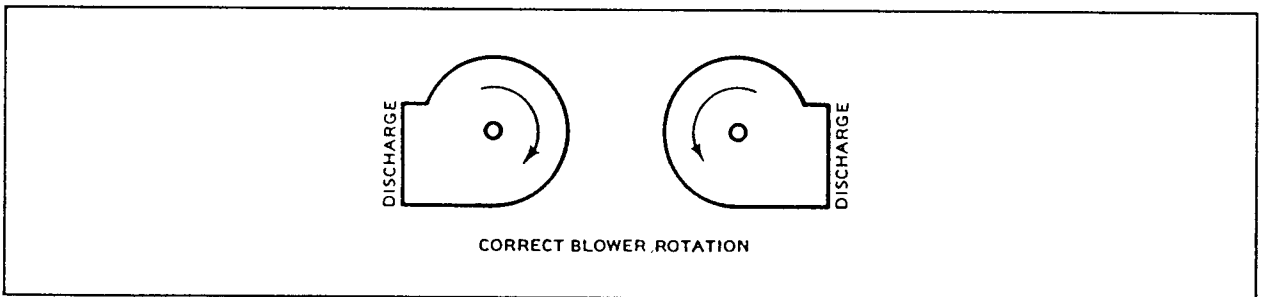

FIGURE 15A - BLOWER ROTATION
1. Turn the air cleaner control switch on. Make sure the blower is providing a strong discharge. On three phase models, the blower should be rotating in the direction shown on Figure 15A. If it isn't, correct the rotation by interchanging any two power leads.